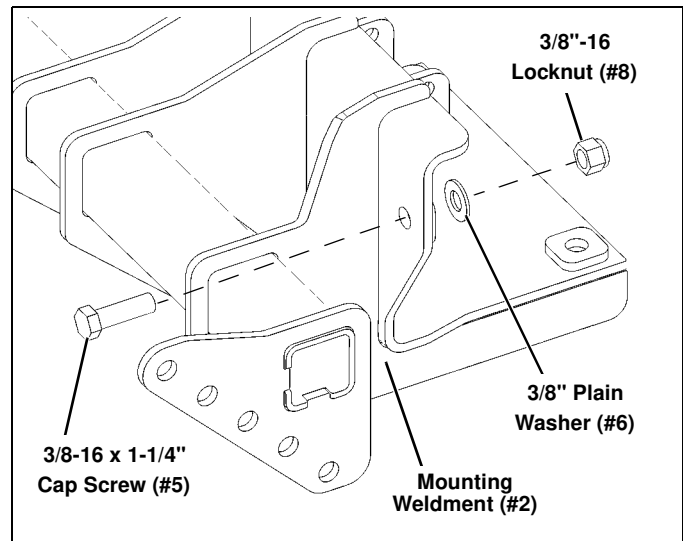

Figure 3
4. Align a 3/8" Plain Washer (#6) with the outer front hole of the Mounting Weldment (#2). Then, insert a 3/8"-16 x 1-1/4" Cap Screw (#5) through the Mounting Weldment (2), 3/8" Plain Washer (#6), and vehicle frame. Secure with a 3/8"-16 Locknut (#8). (See Figure 3.)